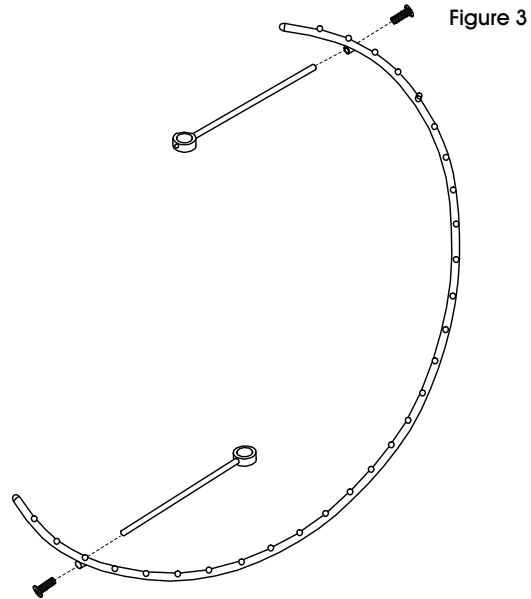

Figure 3
3. Unscrew two screws from straight end of spacers. Attach spacers to spiral tube using two screws. (See Figure 3)